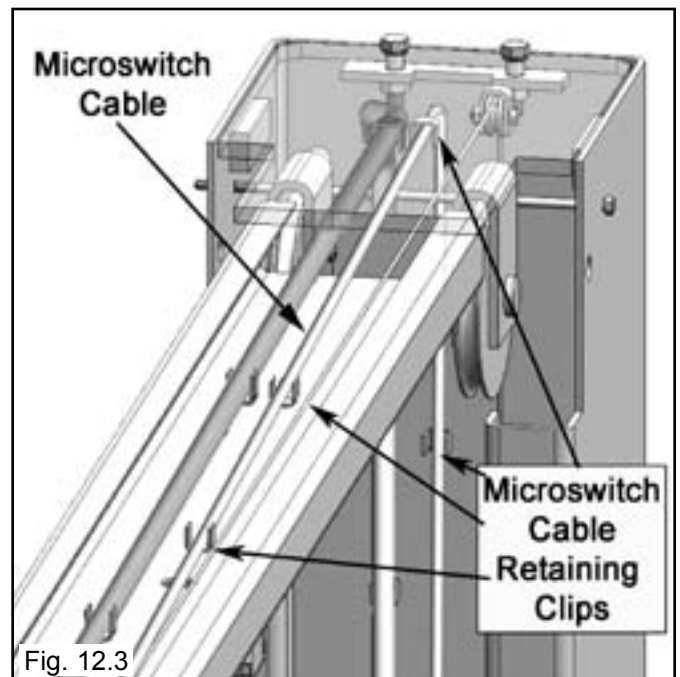

Fig. 12.3
3. Route Cord up through Column and across Top Trough through hole on top Trough into the Microswitch Box. (See Fig. 12.3)